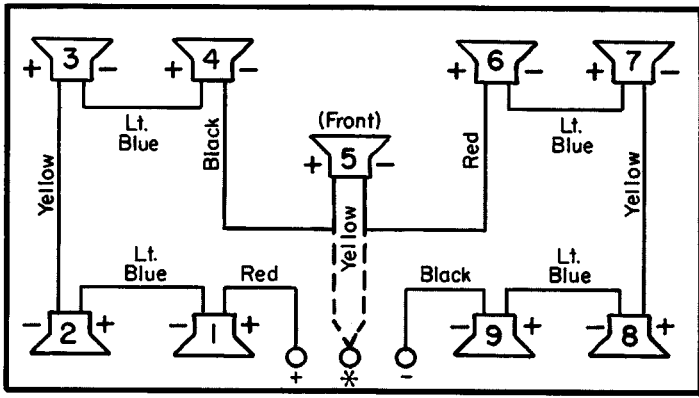

Figure 1 Speaker Schematic
- 1. CONTINUITY CHECK** — An open driver may be detected by using an ohmmeter and checking continuity. Carefully penetrate the black cement covering the flexible conductor on the surface of each cone with the ohmmeter lead. Check continuity between each driver and the speaker terminals until the open driver is detected. (See Figures 1 and 2).
- 3. PHASING CHECK** — Using a 6 to 20 watt battery or DC Power Supply, check that all speakers are in phase (moving together). Connect the positive portion of the power supply to the "plus" terminal of the 901 and the ground connection of the supply to the "minus" terminal of the speaker system. This will produce an outward motion of all drivers (including the front driver). (See Figure 1).
- The "*" terminal is provided for future product innovations designed to operate with the 901 Series III. Only use the terminals marked "plus" and "minus" for connection to amplifiers or receivers. However, service of the loudspeaker can be facilitated when checking continuity by using the "*" terminal. (See Figure 1 and Test Procedure 1).
- The Part I 901 speakers are wired with front speaker (5) connected in series with speakers 6, 7, 8 and 9. The "plus" terminal of the front speaker is connected to the "*" terminal. (See Figure 1).
The Part II 901 speakers are wired with front speaker (5) connected in series with speakers 1, 2, 3 and 4. The "minus" terminal of the front speaker is connected to the "*" terminal. (See Figure 1).